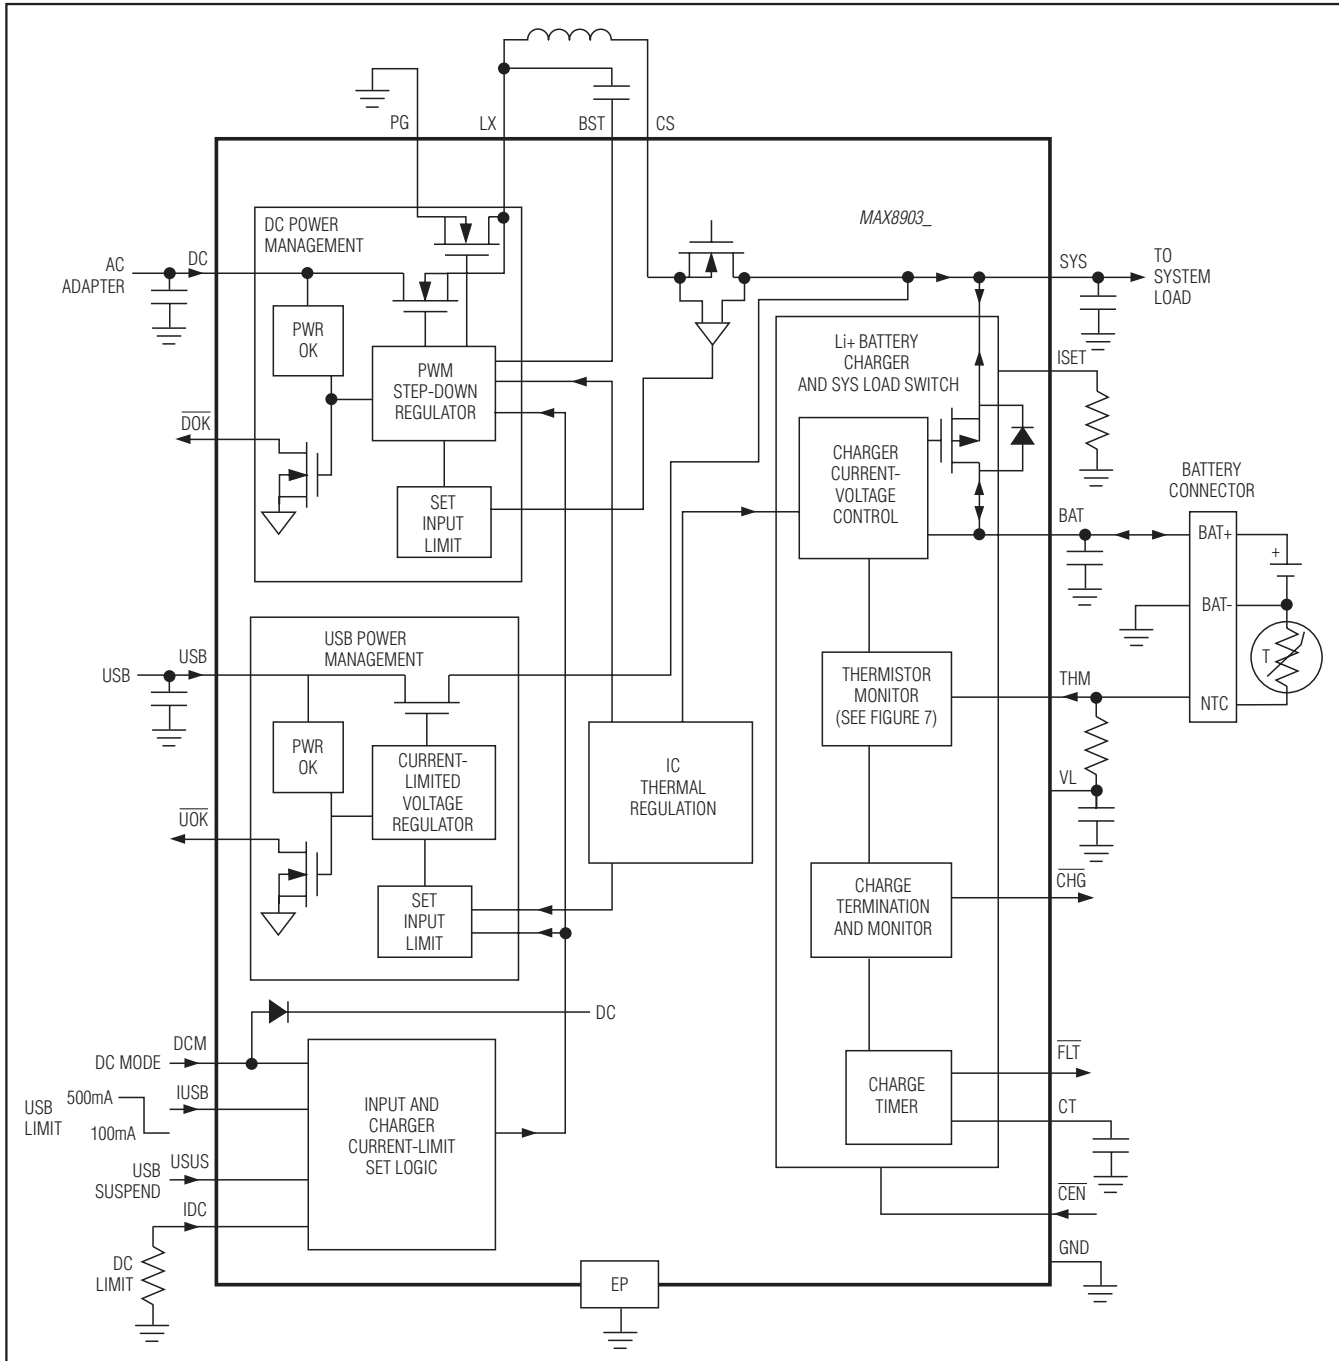
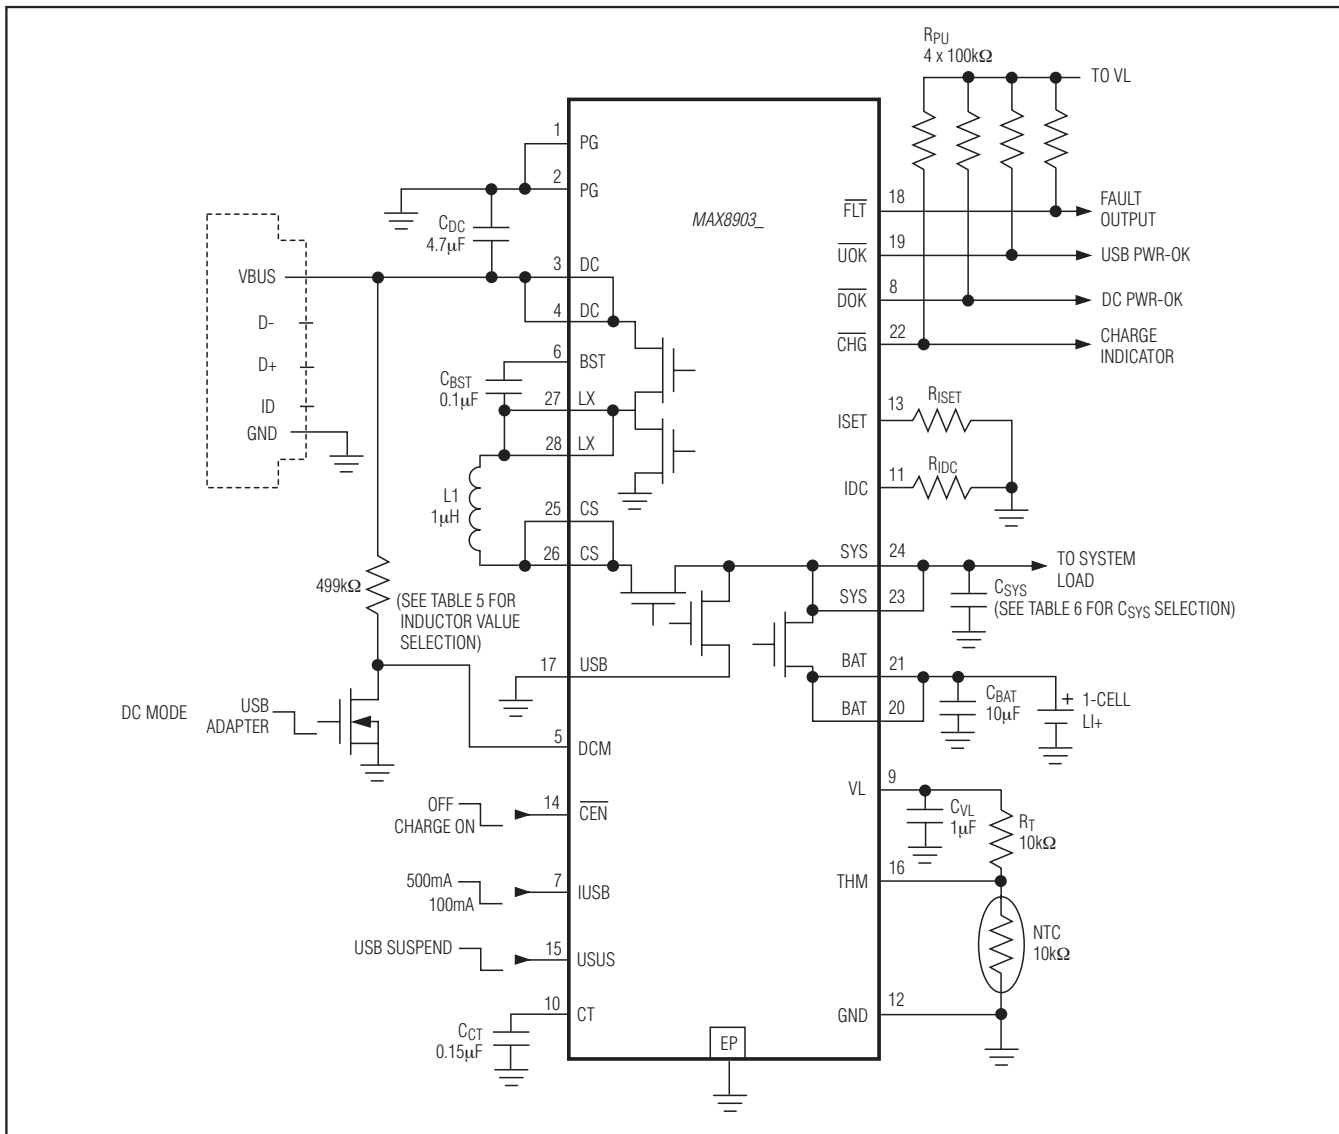

Figure 1. Functional Block Diagram
Figure 3. Typical Application Circuit Using a Mini 5 Style Connector or Other DC/USB Common Connector
As shown in Figure 1, the IC includes a full-featured charger with thermistor monitor, fault timer, charger status, and fault outputs. Also included are power-OK signals for both USB and DC. Flexibility is maintained with adjustable charge current, input current limit, and a minimum system voltage (when charging is scaled back to hold the system voltage up).
The DCM pin has an internal diode to DC as shown in Figure 1. To prevent current from flowing from DCM through the internal diode and to the DC input, DCM cannot be driven to a voltage higher than DC. The
circuit of Figure 3 shows a simple MOSFET and resistor on DCM to prevent any current from flowing from DCM through the internal diode to DC. This circuit of Figure 3 allows a microprocessor to drive the gate of the MOSFET to any state at any time.
An alternative to the simple MOSFET and resistor on DCM as shown in Figure 3 is to place a $1\text{M}\Omega$ resistor in series with the DCM input to the microprocessor. The microprocessor can then monitor the $\overline{\text{DOK}}$ output and make sure that whenever $\overline{\text{DOK}}$ is high DCM is also low. In the event that DCM is driven to a higher voltage than DC, the $1\text{M}\Omega$ series resistance limits the current from DCM through the internal diode to DC to a few μA .
*** There is an internal diode from DCM (anode) to DC (cathode) as shown in Figure 1. If the DCM level needs to be set by a μP , use a MOSFET for isolation as shown in Figure 3.